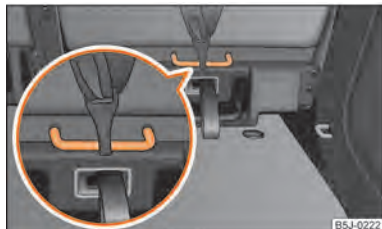

Fig. 112 Rear seat: Top Tether
The rear exterior seats and/or the middle seat (only valid for some countries) are equipped as standard with the attachment system "Top Tether" at the rear of the seat backrest for enhancing the child safety → fig. 112.
- Attach the child seats with the "Top Tether" system only to the points provided for this purpose ⇒ fig. 112.